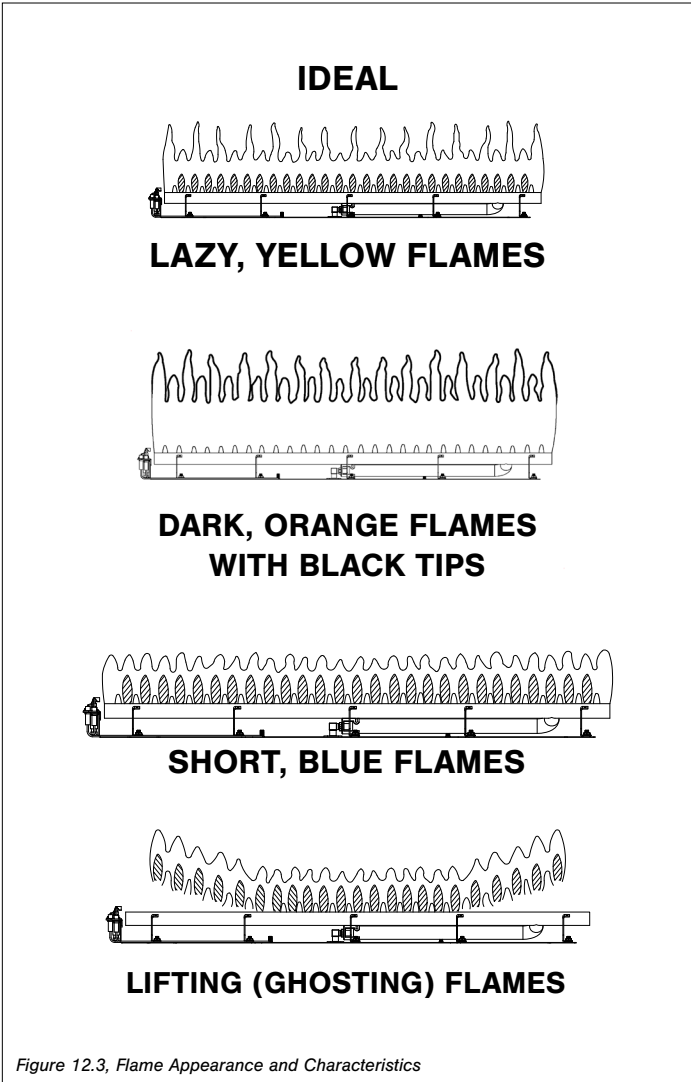

Figure 12.3, Flame Appearance and Characteristics
- Visually check pilot light and burner flame pattern when in operation. Flames should be steady, not lifting or floating. Refer to Figure 12.3, Flame Appearance and Characteristics on page 43.